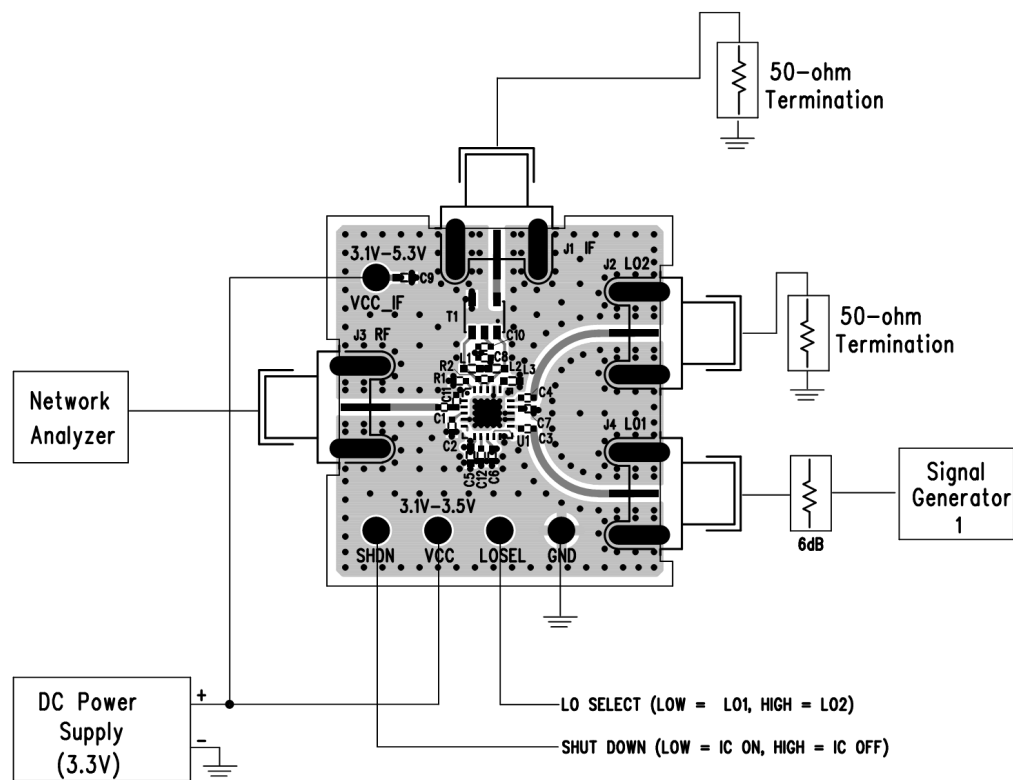
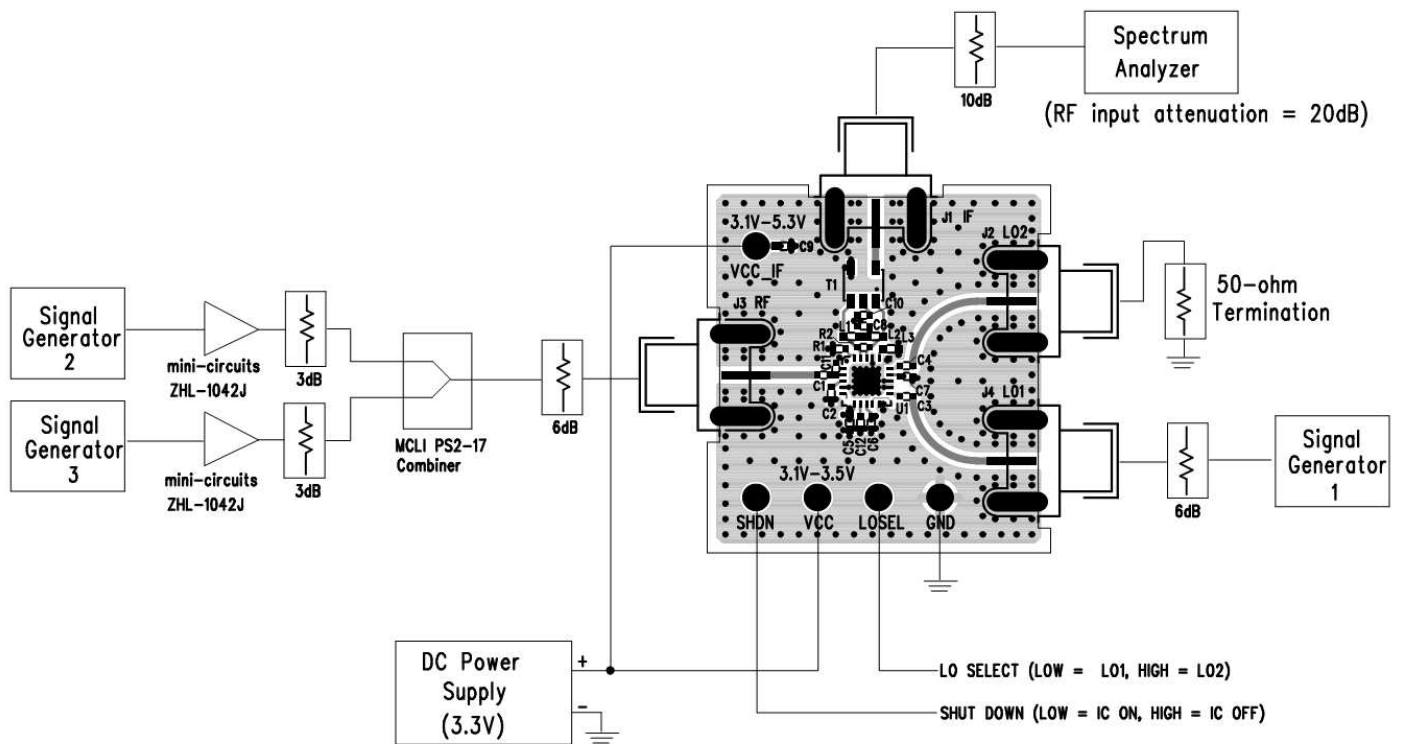
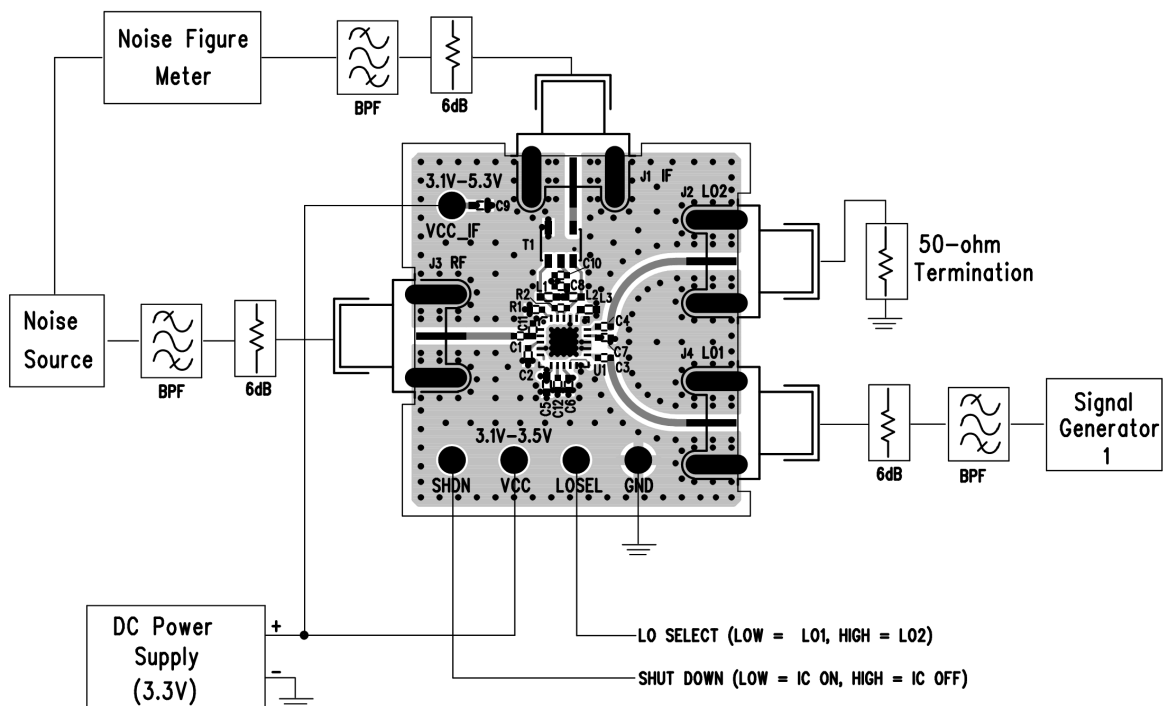

Figure 5. Proper Equipment Setup for Return Loss Measurements
Figure 6. Proper Equipment Setup for RF Performance Measurements
Figure 7. Proper Equipment Setup for Noise Figure Measurement
The LTC5541 is a high dynamic range downconverting mixer IC with very high input 3rd order intercept. Accuracy of its performance measurement is highly dependent on equipment setup and measurement technique. The recommended measurement setups are presented in Figure 5, Figure 6, and Figure 7. The following precautions should be observed:
The LTC5541 consists of a high linearity passive double-balanced mixer core and IF buffer amplifier. Due to the bi-directional nature of all passive mixers,  $\text{LO}\pm\text{IF}$  mixing product is always present at the RF input, typically at a level of 12dB below the RF input signal. If the  $\text{LO}\pm\text{IF}$  "Pseudo-Image Spur" is not properly terminated, it may interfere with the source signals, and can degrade the measured linearity and noise figure significantly. To avoid interference from the  $\text{LO}\pm\text{IF}$  "Pseudo-Image Spur", terminate the RF input port with an isolator, diplexer, or attenuator. In the recommended measurement setups presented in Figure 6 and Figure 7, the 6dB attenuator pad at the demonstration circuit's RF input serves this purpose.
Demonstration circuit 1431A-B is easy to set up to evaluate the performance of the LTC5541. Refer to Figure 5, Figure 6, and Figure 7 for proper equipment connections and follow the procedure below:
3. Connect all test equipment as shown in Figure 5 with the signal generator and the DC power supply turned off.
1. Connect all test equipment as shown in Figure 6 with the signal generators and the DC power supply turned off.
2. Connect all test equipment as shown in Figure 7 with the signal generator and the DC power supply turned off.